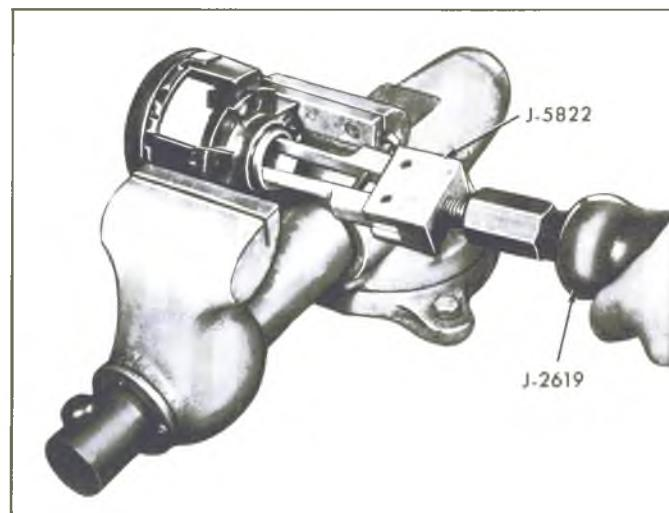

Fig. 93—Removing Bearing Race
- b. Using Puller J-5822 and Slide Hammer J-2619, pull the bearing races from the housing (fig. 93).